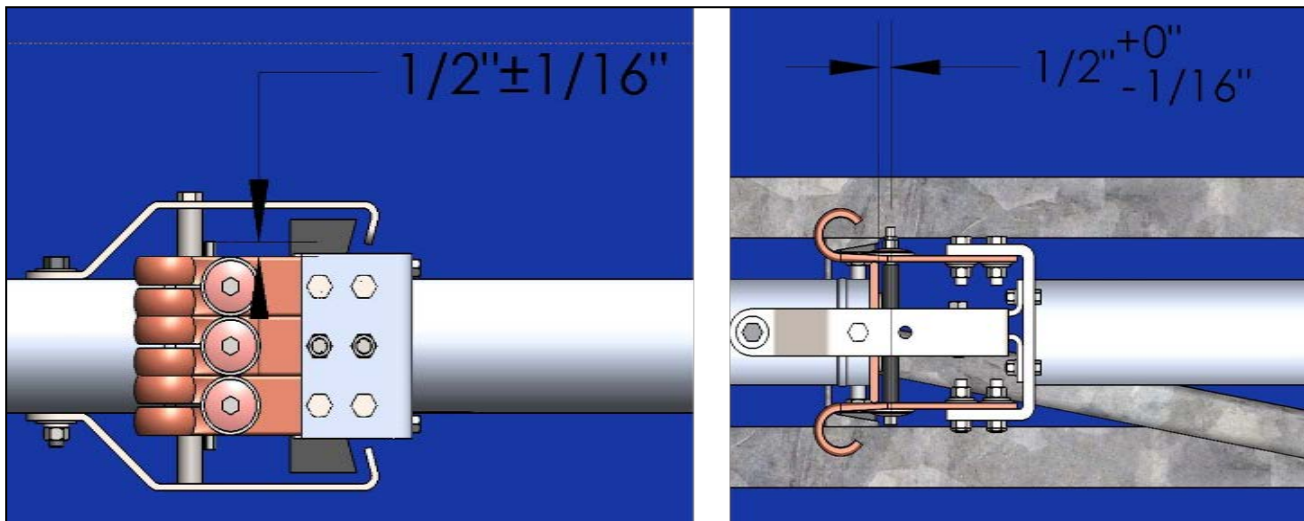

Figure 20: Switch - Fully Closed Position (Left: Side view, Right: Top view)
3.1. Start with the disconnect switch and operating mechanism in the closed position. Refer to Figure 20.